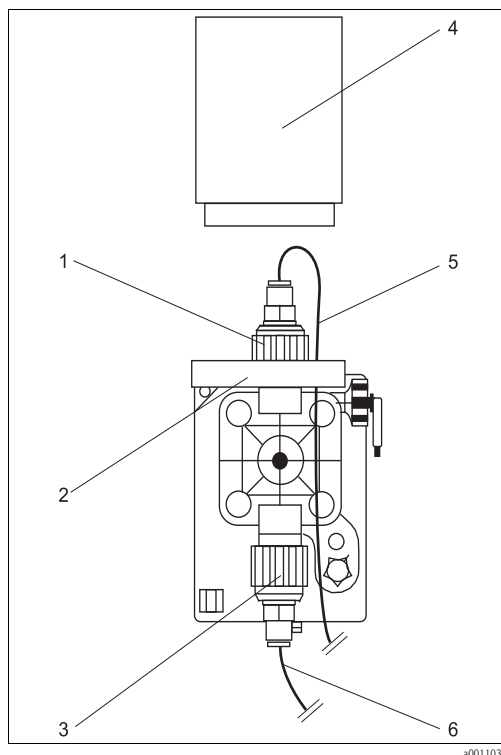

Fig. 27: Membrane pump
2. Unscrew the splash protection cap (→ Fig. 27, item 4).
3. Pull the filtrate hoses (items 5 and 6) out of the plug-in connectors on the suction and pressure connection.
4. Unscrew the coupling nuts (items 1 and 3).
5. Remove the splash protection base (item 2) from the pressure connection.
6. Screw the supplied knurled nut (→  28, item 7) on the pressure side so that the upper edge of the knurl is positioned at the recess at the level of the groove on the check valve (item 9).
10. With the arrow pointing upwards (→  29, item 12), push the valve all the way in the screw socket.